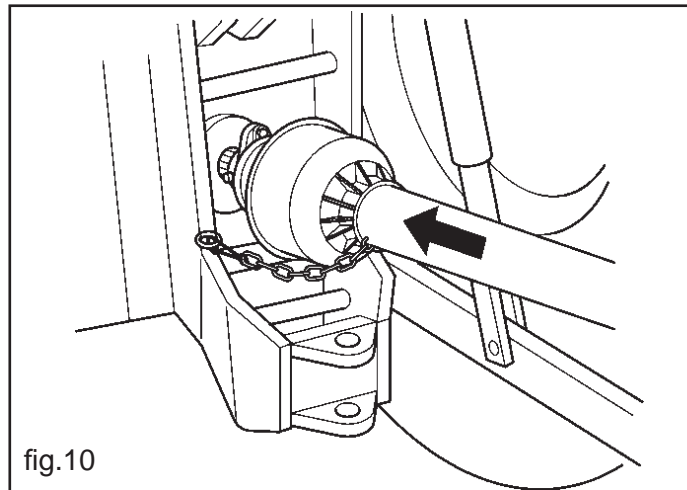

fig.10
- 5) Connect the Cardan shaft and make sure that it is perfectly blocked on the power take-off (fig.10). Check that the guard turns freely and fix it with the chain provided.